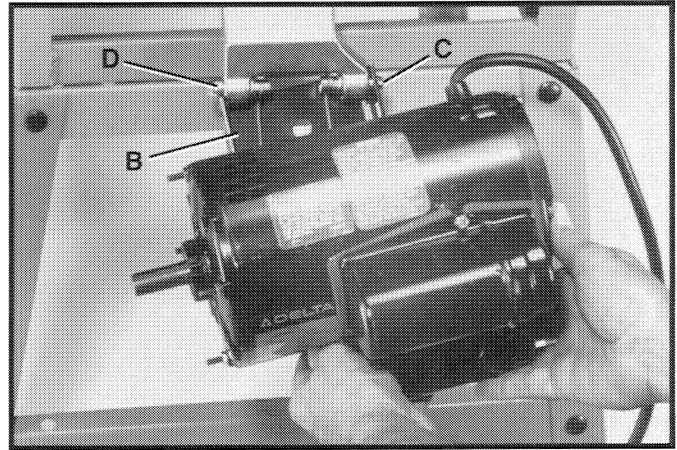

Fig. 13
2. Insert one end of motor plate onto plunger (C) Fig. 13, as shown.
3. Depress the other plunger (D) Fig. 13, and rotate motor plate (B) until plunger (D) engages inside hole in end of motor plate (B).